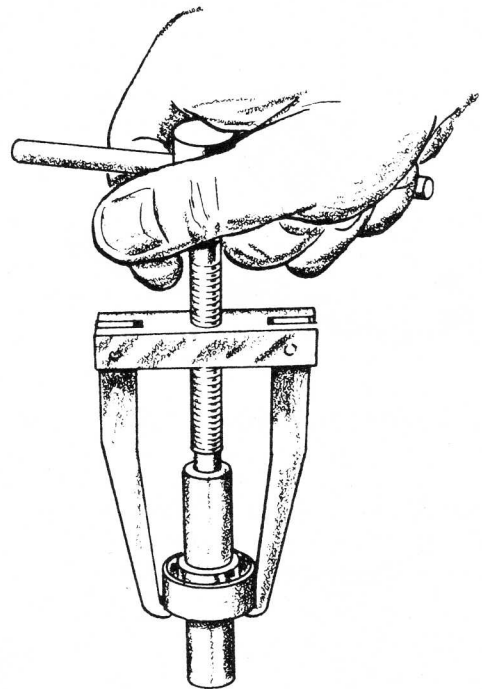

FIGURE 19 Mounting Overrunning Clutch
- b. Apply the ring to the groove of the shaft. Use a tool as shown in Figure 19 and pull the pinion stopper up.